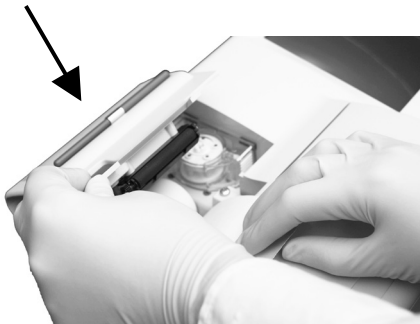

Fig. 2-13 Close Printer Cover
- Hold the paper and close the printer cover (Fig. 2-13).